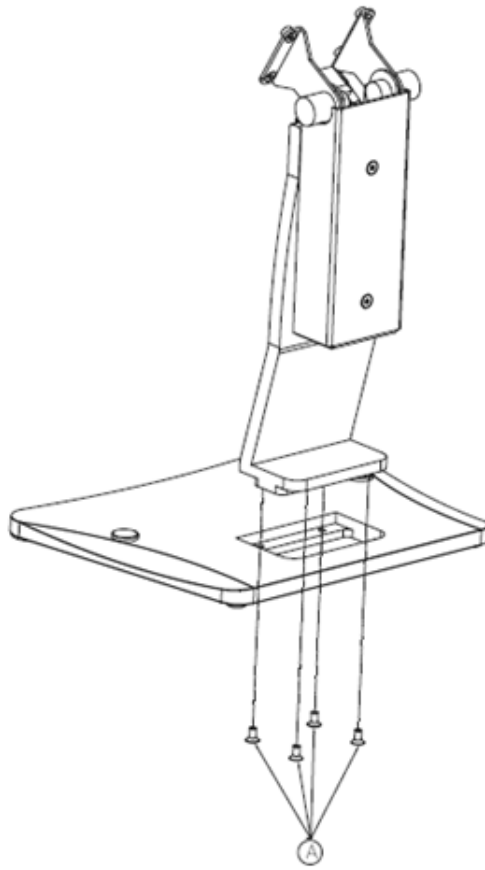

Figure 2.36 Securing the VESA mount base
3. Use four M4 x 6L screws to secure the mount stand to the VESA mount bracket (Figure 2.36).